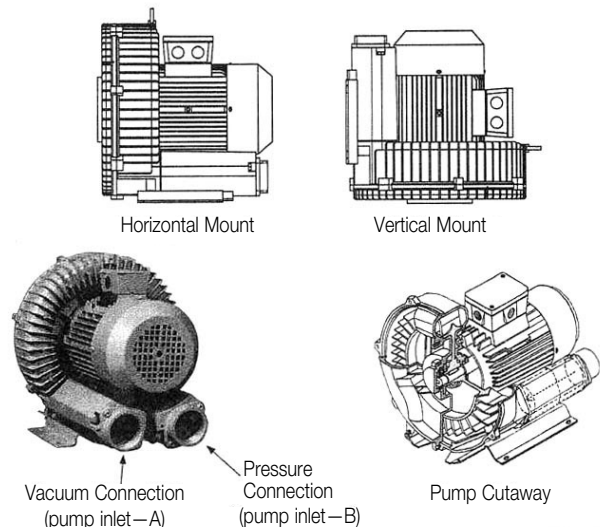

Figure 1
As illustrated in Figure 1, Sweetwater® High-Pressure blowers can be installed in any physical configuration.
1. For vacuum operation, connect the suction pipe to connection A, and for pressure operation connect the pressure pipe to connection B (see Figure 1). Install startup screens before startup to protect pump from debris.